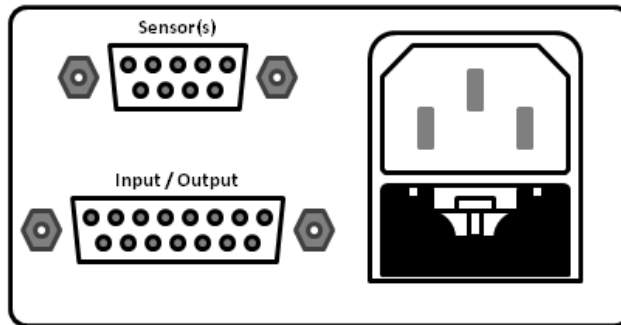

Figure 2. Terranova® 924A back view
The Terranova® 924A has a female 9-pin D-sub connection located on the back of the control unit labeled SENSOR(S) to connect the pressure gauge cable (**See Figure 2**). User will require the Duniway gauge cable **TC-924A-CBL-10** to connect the Varian Type 531 and equivalent pressure gauges to the control unit.